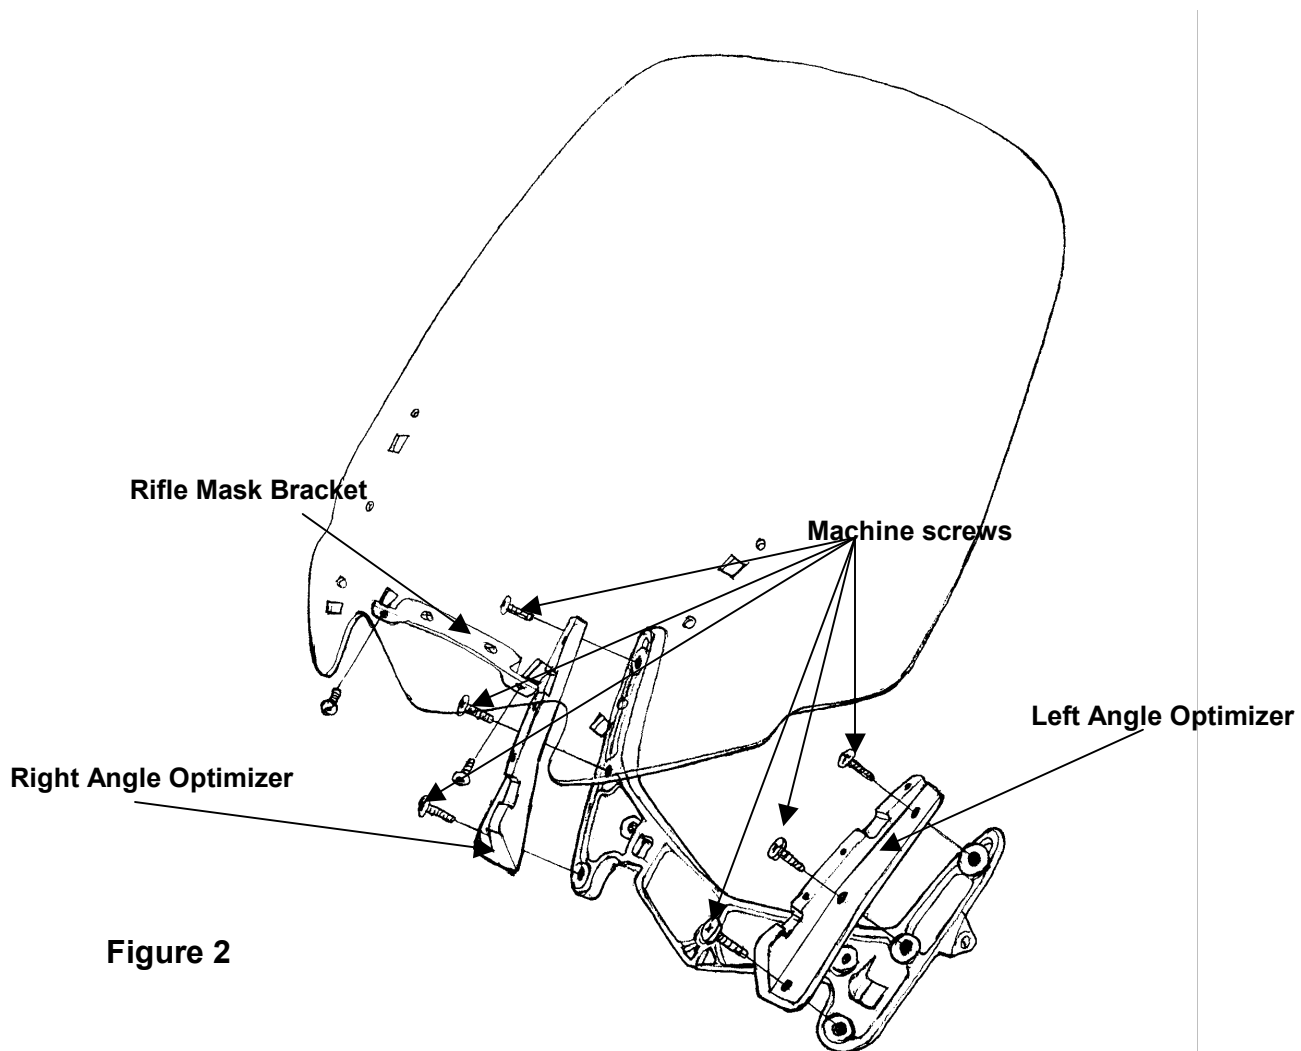

Figure 2
- a. Mount the left Rifle Angle Optimizer onto the left side of the Yamaha windshield mount frame with 3 of the 6 machine screws provided. See Figure 2.